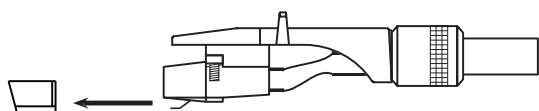

Fig. 6
The supplied cartridge is equipped with a stylus protection cover which has to be removed for operation and some adjustment tasks. Please carefully pull off the protection cover to the front (fig. 6). After use of the turntable, we recommend to put the protection cover on the cartridge again.
- Set the anti-skate control dial (17) to 0.
- Remove the stylus cover of the cartridge (fig. 6).
- Unlock the tone arm lock (12) by sliding the locking lever to the right.
- Adjust the tone arm counterweight (7) by turning it until the tone arm hovers horizontally and stops tilting upwards or downwards by itself.